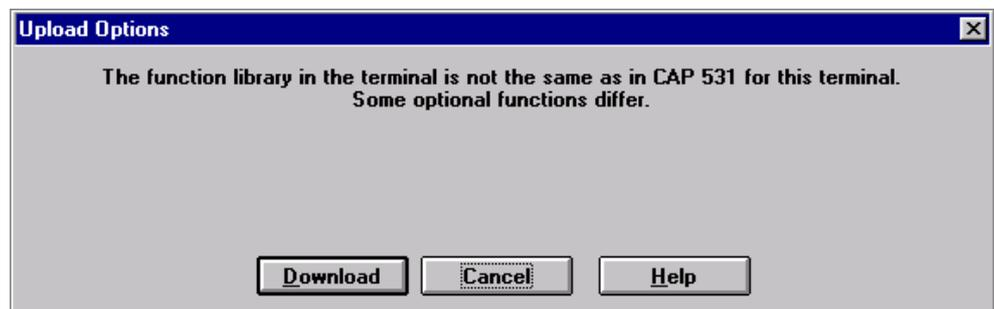

Fig. 45 A warning is displayed if the set of functions differs.
The warning message in Fig. 45 is displayed if the list of available functions differs between the terminal and the corresponding library in CAP 531. Interrupt the downloading procedure with 'Cancel' and run 'Upload Options' manually. After this 'Upload Options' you can start the downloading procedure again. Then no warning message will appear.
*If you download a configuration with unavailable functions included into your configuration, they will not be connected and the configuration in the terminal will not be identical with the configuration in CAP 531. You should therefore always press 'Cancel' when the warning message appears as in Fig. 45.*